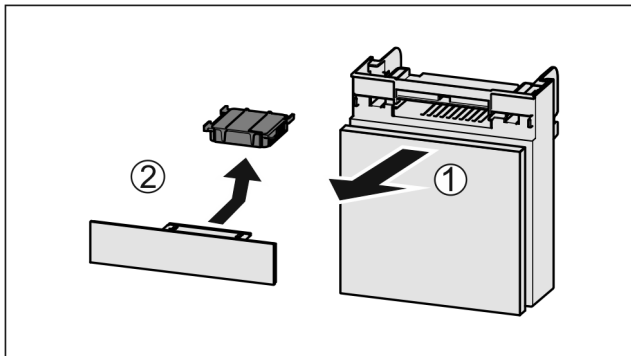

Fig. 93
- ▶ Pull out the compartment Fig. 93 (1).
- ▶ Remove the carbon filter Fig. 93 (2).